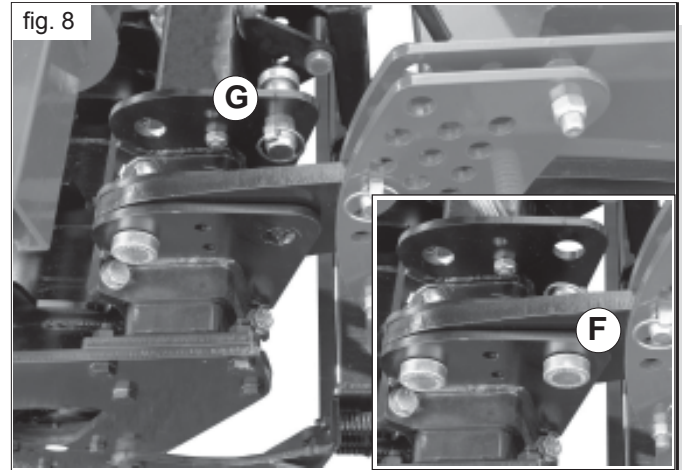

fig. 8
- Remove the locking pins of the roller (F, Fig. 8), and replace them in position (G). With connected equipments, this operation allows to grant a parallelism of movement between the equipment and the seeder during the work phases.